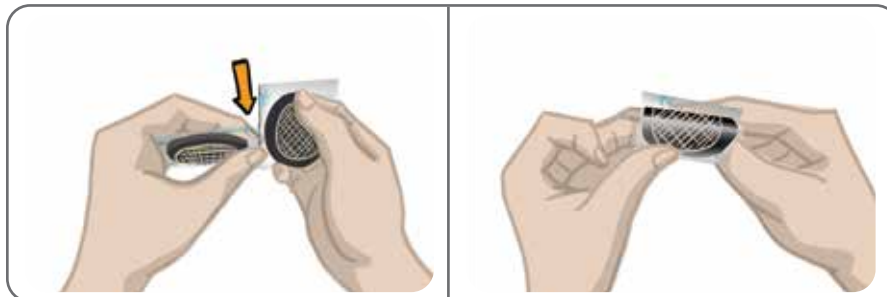

Figure 8-2: Separating the Hydrogel Electrodes and Splitting the Two-Piece Covers
2. Separate the two new Hydrogel Electrodes along the perforation. See Figure 8-2.
3. Split the two-piece covers on each electrode and discard them. See Figure 8-2.